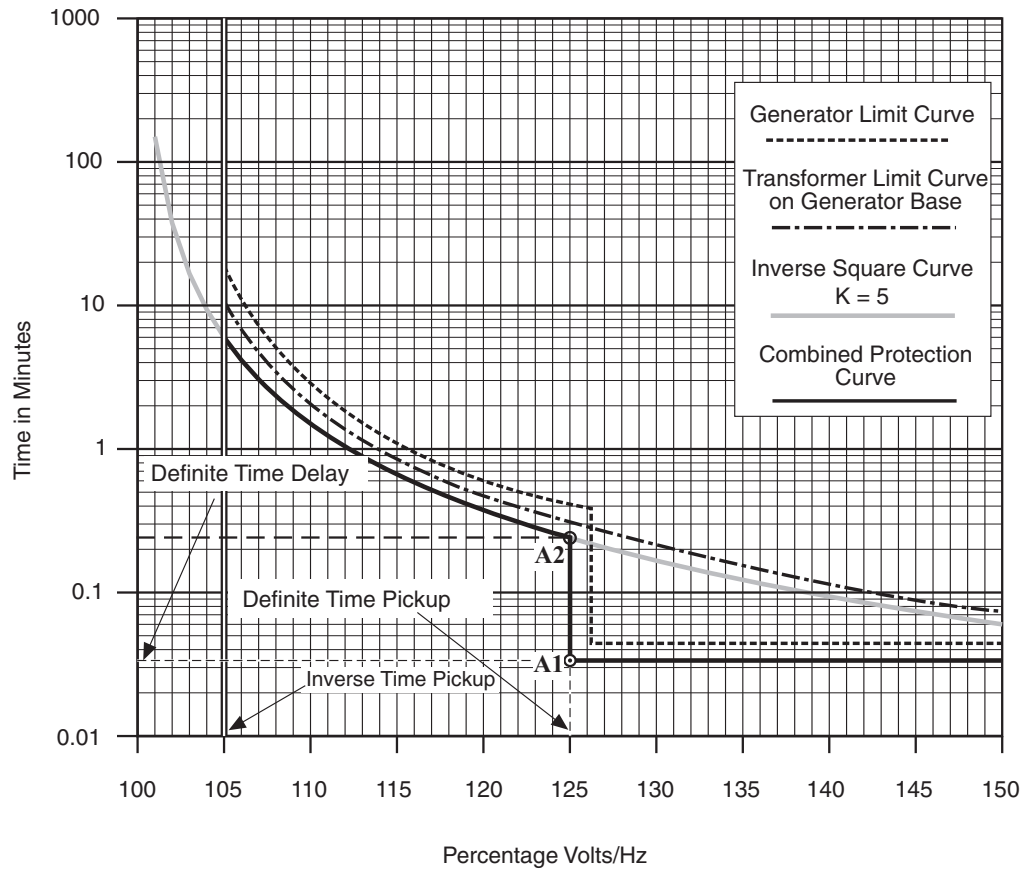

Figure 4-28 Example of V/Hz Capability and Protection Curves
■ **NOTE:** The curves must be on the same voltage base to be combined on one graph. An example is shown in Figure 4-28, Example of Capability and Protection Curves. The manufacturer of the generator and transformer will provide these over-excitation capability limits.
Figure 4-28, Example of Capability and Protection Curves, illustrates a composite graph of generator limits, transformer limits, a chosen inverse time curve, inverse time pickup, and definite time setpoint. While inverse time curve selection may provide more selective and sensitive protection, a traditional two-step protection scheme may be realized by using the two definite time functions (24DT #1 and #2), and disabling the inverse (24IT) element.
Definite time setpoint #1 establishes the V/Hz level above which the protection operating time will be fixed at the definite time delay #1 (See Figure 4-28). 100% is equal to nominal voltage at nominal frequency (50/60Hz). See Section 4.2, **Configuration**.
Delay time #1 establishes the operation time of the protection for all V/Hz values above the level set by definite time setpoint #1. Note that delay time #1 (A.1 in Figure 4-28) must be less than the operating time of the selected inverse curve at the definite time setpoint #1 V/Hz level (A.2 in Figure 4-28). Delay time A.1 becomes the definite minimum time for the inverse curve which prevents misoperation during transients. It is highly recommended that 24DT #1 be enabled along with 24IT function.
As shown in Figure 4-28, the pickup value is the V/Hz value (in %) that the chosen inverse curve begins protective operation. Typical value is 105%.